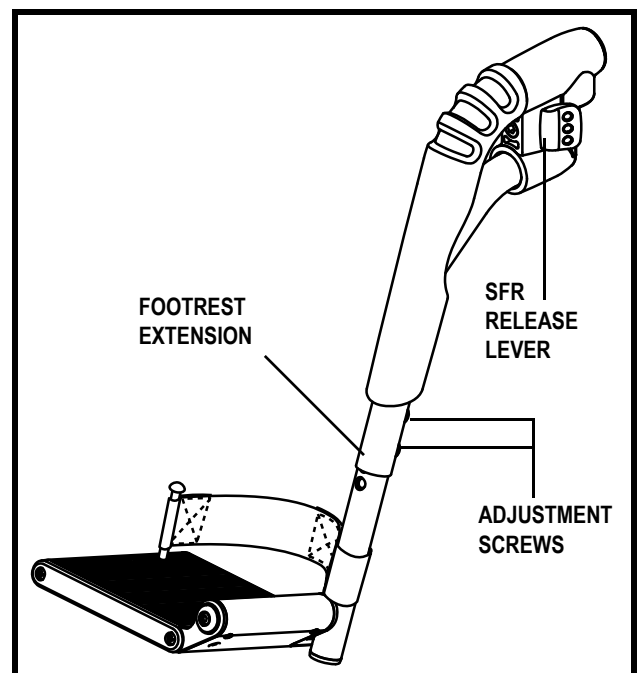

Figure 22. Swing-Away Footrests
1. Remove the adjustment screw(s) from the footrest extension. See figure 22.